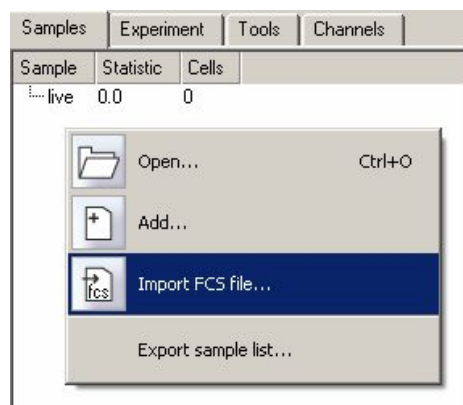

Figure 7.4 Importation of FCS files.
- 2) Right click with the **Samples** tab and select **Import FCS file...** (see Figure 7.4)